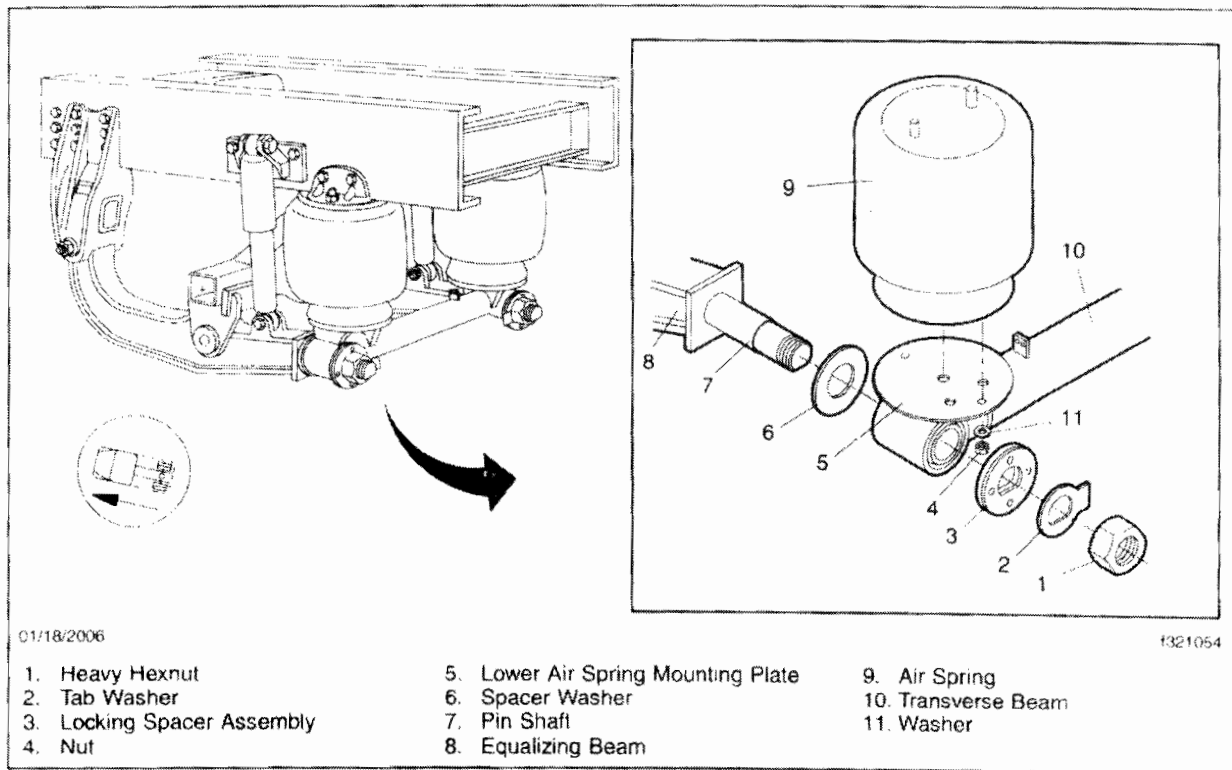

Fig. 1. Holland Neway Ad Series Suspension Assembly
6. Remove the nuts and washers located under the lower air spring mounting plates and remove the air springs from the lower air spring mounting plates. See Fig. 1. Save the fasteners.
8. Bend the locking tab out of the way, then remove the heavy hexnut from the end of each equalizing beam. See **Fig. 1**. Then remove and discard the tab washers, and the locking spacer assemblies.
14. Verify the orientation of the linkage tabs and install the replacement transverse beam over the pin shafts. See **Fig. 1**.